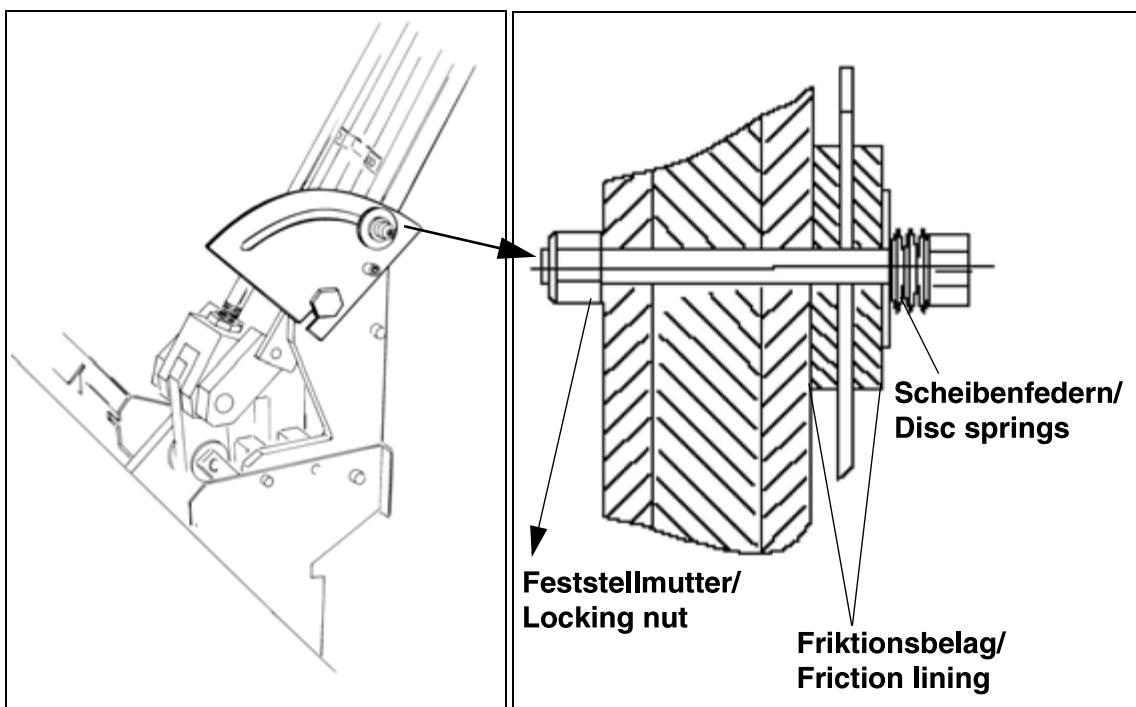

Fig. 63: *lo_arm_stability_1*
- Reattach the screw and spring washers (Fig. 63 / p. 72). Secure screw with the locking nut.